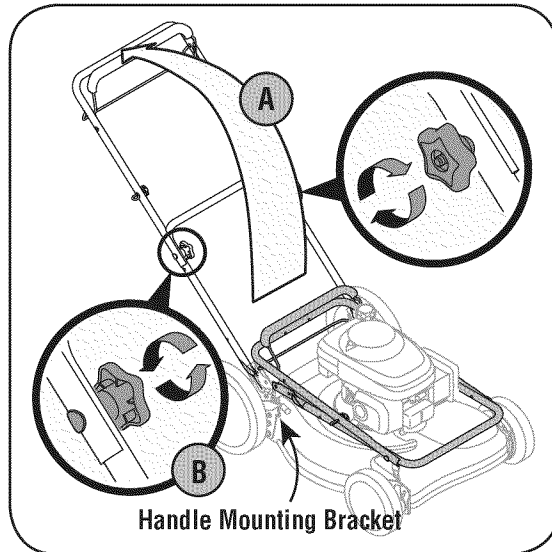

Figure 3-1: Lift handle and tighten hardware.
- a. Pull up and back on upper handle as shown in Figure 3-1. Make certain the lower handle is seated securely into the handle mounting brackets.